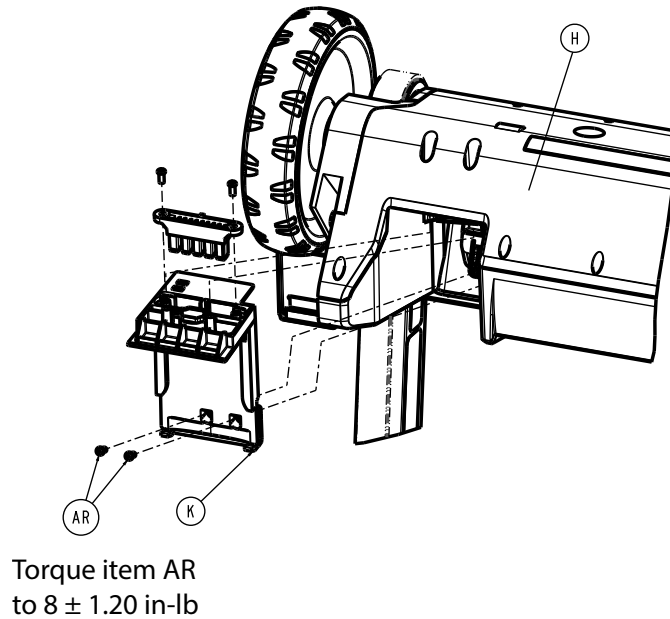

Figure 38 –
4. Using a T15 Torx driver, remove the two pan head thread forming screws (AR) that secure the battery housing assembly (K) to the power box upper cover (H) (Figure 38). Save the screws.